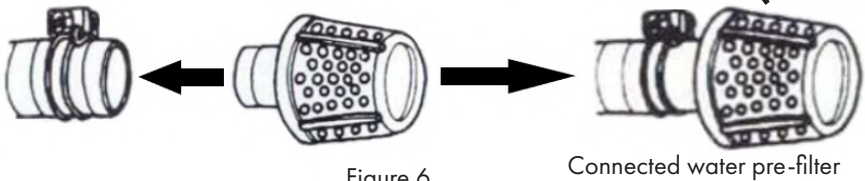

Figure 6
- Install the pre-filter at the end of the suction line as shown in Fig. 6 and secure it with the hose clamp.